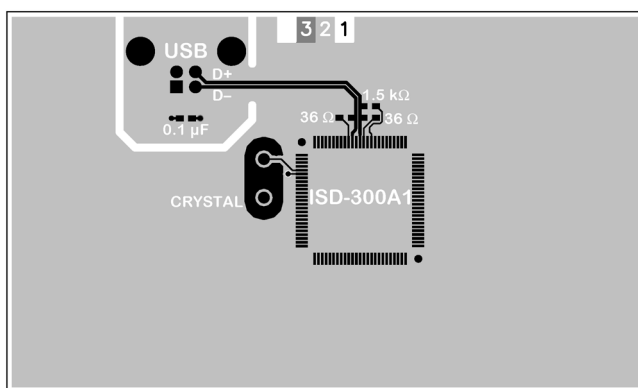

Figure 5. ISD-300A1 Layout Showing D+/D- Traces, Series Termination Resistors, USB Peninsula, and Crystal
12. If the Cypress High-speed USB chip requires series termination and pull-up resistors on D+ and D– place their pads on the traces. Avoid stubs. Locate these resistors as close as possible to the chip. See *Figure 5* for reference.